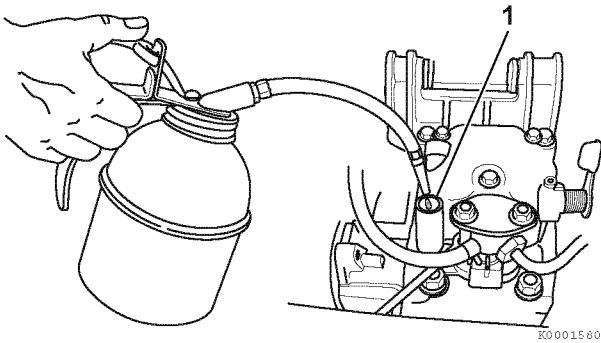

Figure 10
2. Add 2 cc of engine oil to the oil port (1, **Figure 10**).